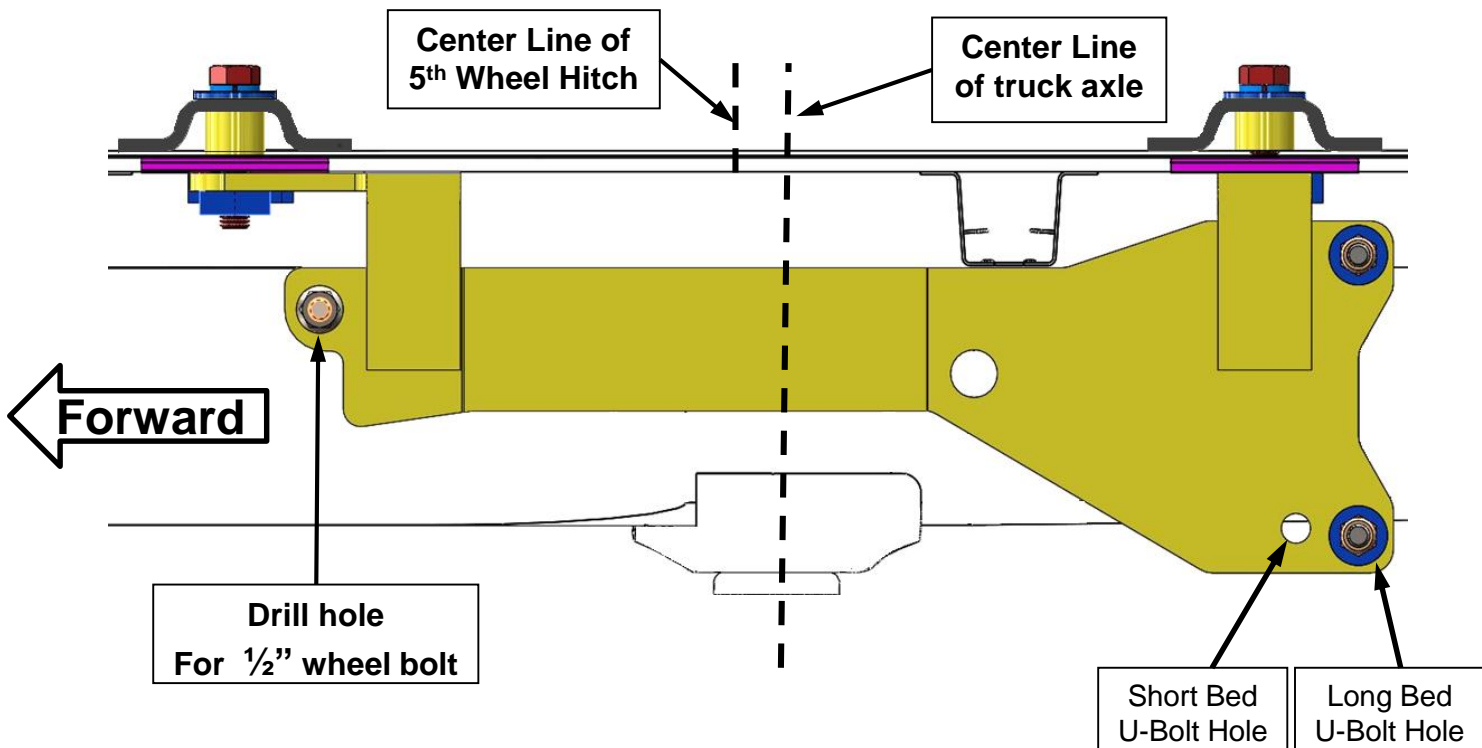

Figure:3
- 8. On most applications, the 5th wheel assembly should be positioned so that it is approximately centered over the truck axle and between the wheel wells on the bed floor. See Figure 3 on page 3.
12. Place U-Bolt (#11) around the truck frame at about 12" behind rear axle shown in Fig.1(Parts Diagram). For U-Bolt holes to be used for long bed or short bed, see Fig.3. on page 3. Be careful to get drivers' side
- At the front attachment point, drill a 17/32" hole through the side of the truck frame using the hole in each frame bracket as a guide as shown location in fig.3